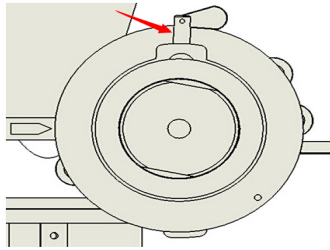

Figure 17
Step 2 Loosen the positioning knob on the dial (Figure 17)
Step 3. First counter-clockwise rotation the dial to the end, there is a Rectangle hole under the machine head , put the $\phi 3$ pin inser to the dial positioning hole by hand. (Figure 17)